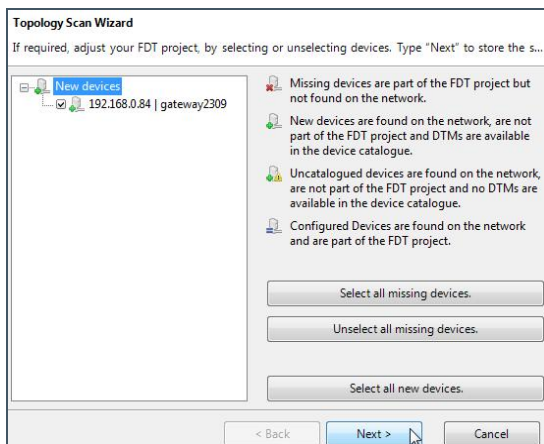

Figure 51: Confirm the found gateway module
- 3) Click **Next** to confirm the found gateway module (see: Figure 51: Confirm the found gateway module).